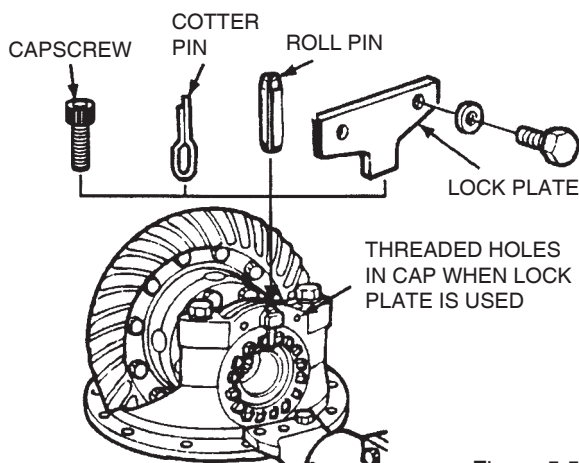

Figure 5.59
- A. Install capscrews between the lugs of the adjusting ring and through the boss of the bearing cap. New capscrews include a locking patch, which can only be used once. If you are installing used capscrews, apply Loctite® threadlocker to the capscrew threads before install the capscrews. Figure 5.59.
- B. Install cotter pins between the lugs of the adjusting ring and through the boss of the bearing cap. Bend the two ends of the cotter pin around the boss. Figure 5.59.
- C. Use a drift and hammer to install the roll pin through the boss of the bearing cap until the roll pin is between the lugs of the adjusting ring. Figure 5.59.
- D. Install the lock plate in the bearing cap so that the tab is between the lugs of the adjusting ring. Install the two capscrews and washers that hold the lock plate to the bearing cap. Tighten the capscrews to the correct torque value. See the Section 8. Figure 5.59.